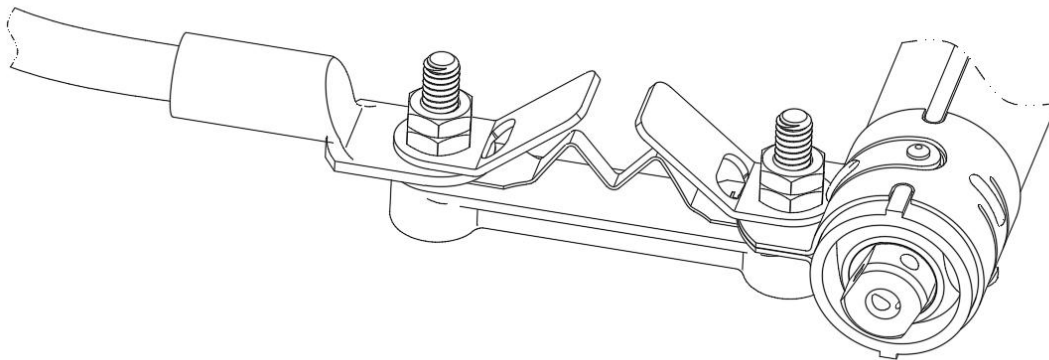

Figure 7
- 2、Reference drawing for Type B Isolation Link assembled on Fuse Holder (Figure 7).